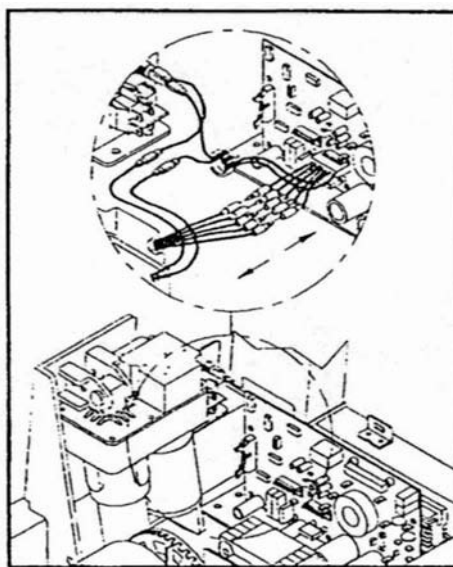

Fig.2
3. Unplug all wires from their terminals.(see Fig.2)